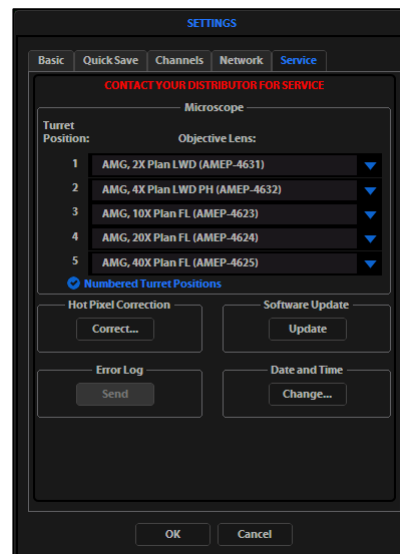

Figure 22 Settings: Service Tab
1. Click the **Settings** button to open the Settings dialog box, and then select the Service tab (Figure 22).